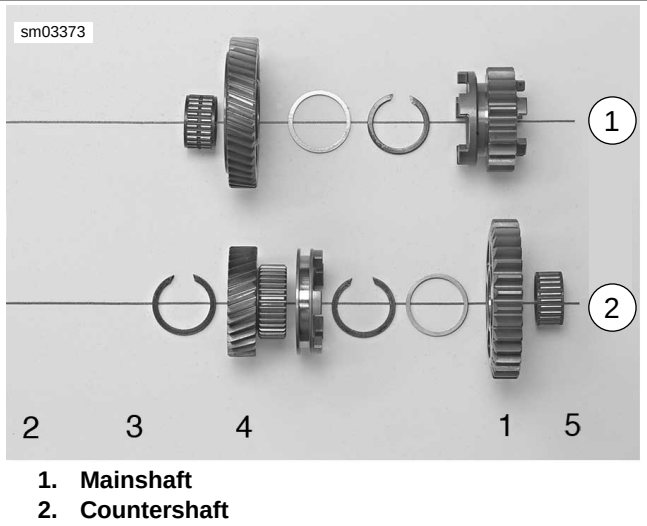

Figure 5-65. Transmission Parts Identification
- See Figure 5-65. As each component is removed, place it on a clean surface in the exact order of removal.